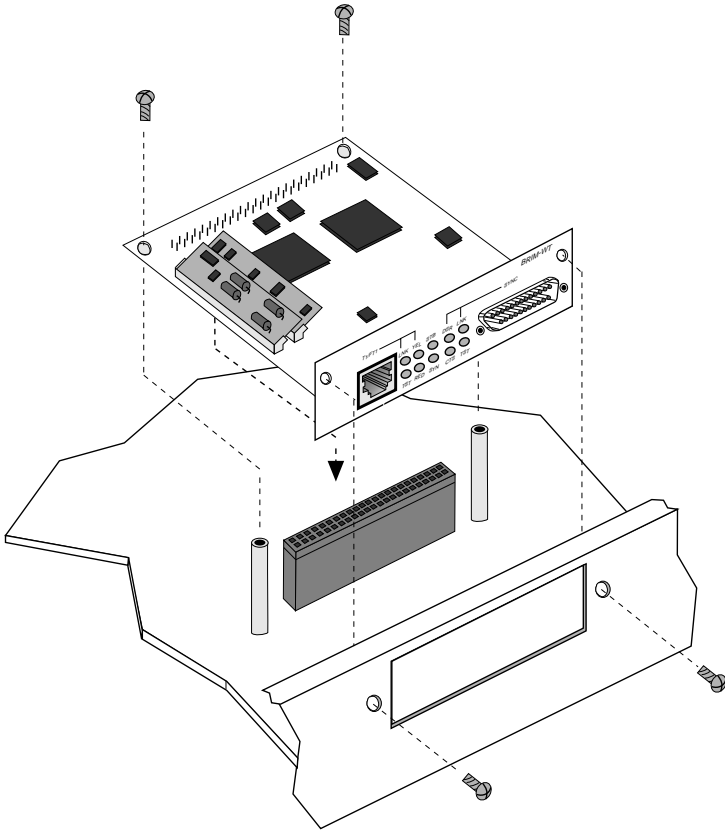

Figure 2-2. Installing the BRIM-WT1
3. Position the BRIM-WT1 in the MicroMMAC as shown in Figure 2-2. Ensure that the connector on the BRIM-WT1 sits flush on the MicroMMAC connector.